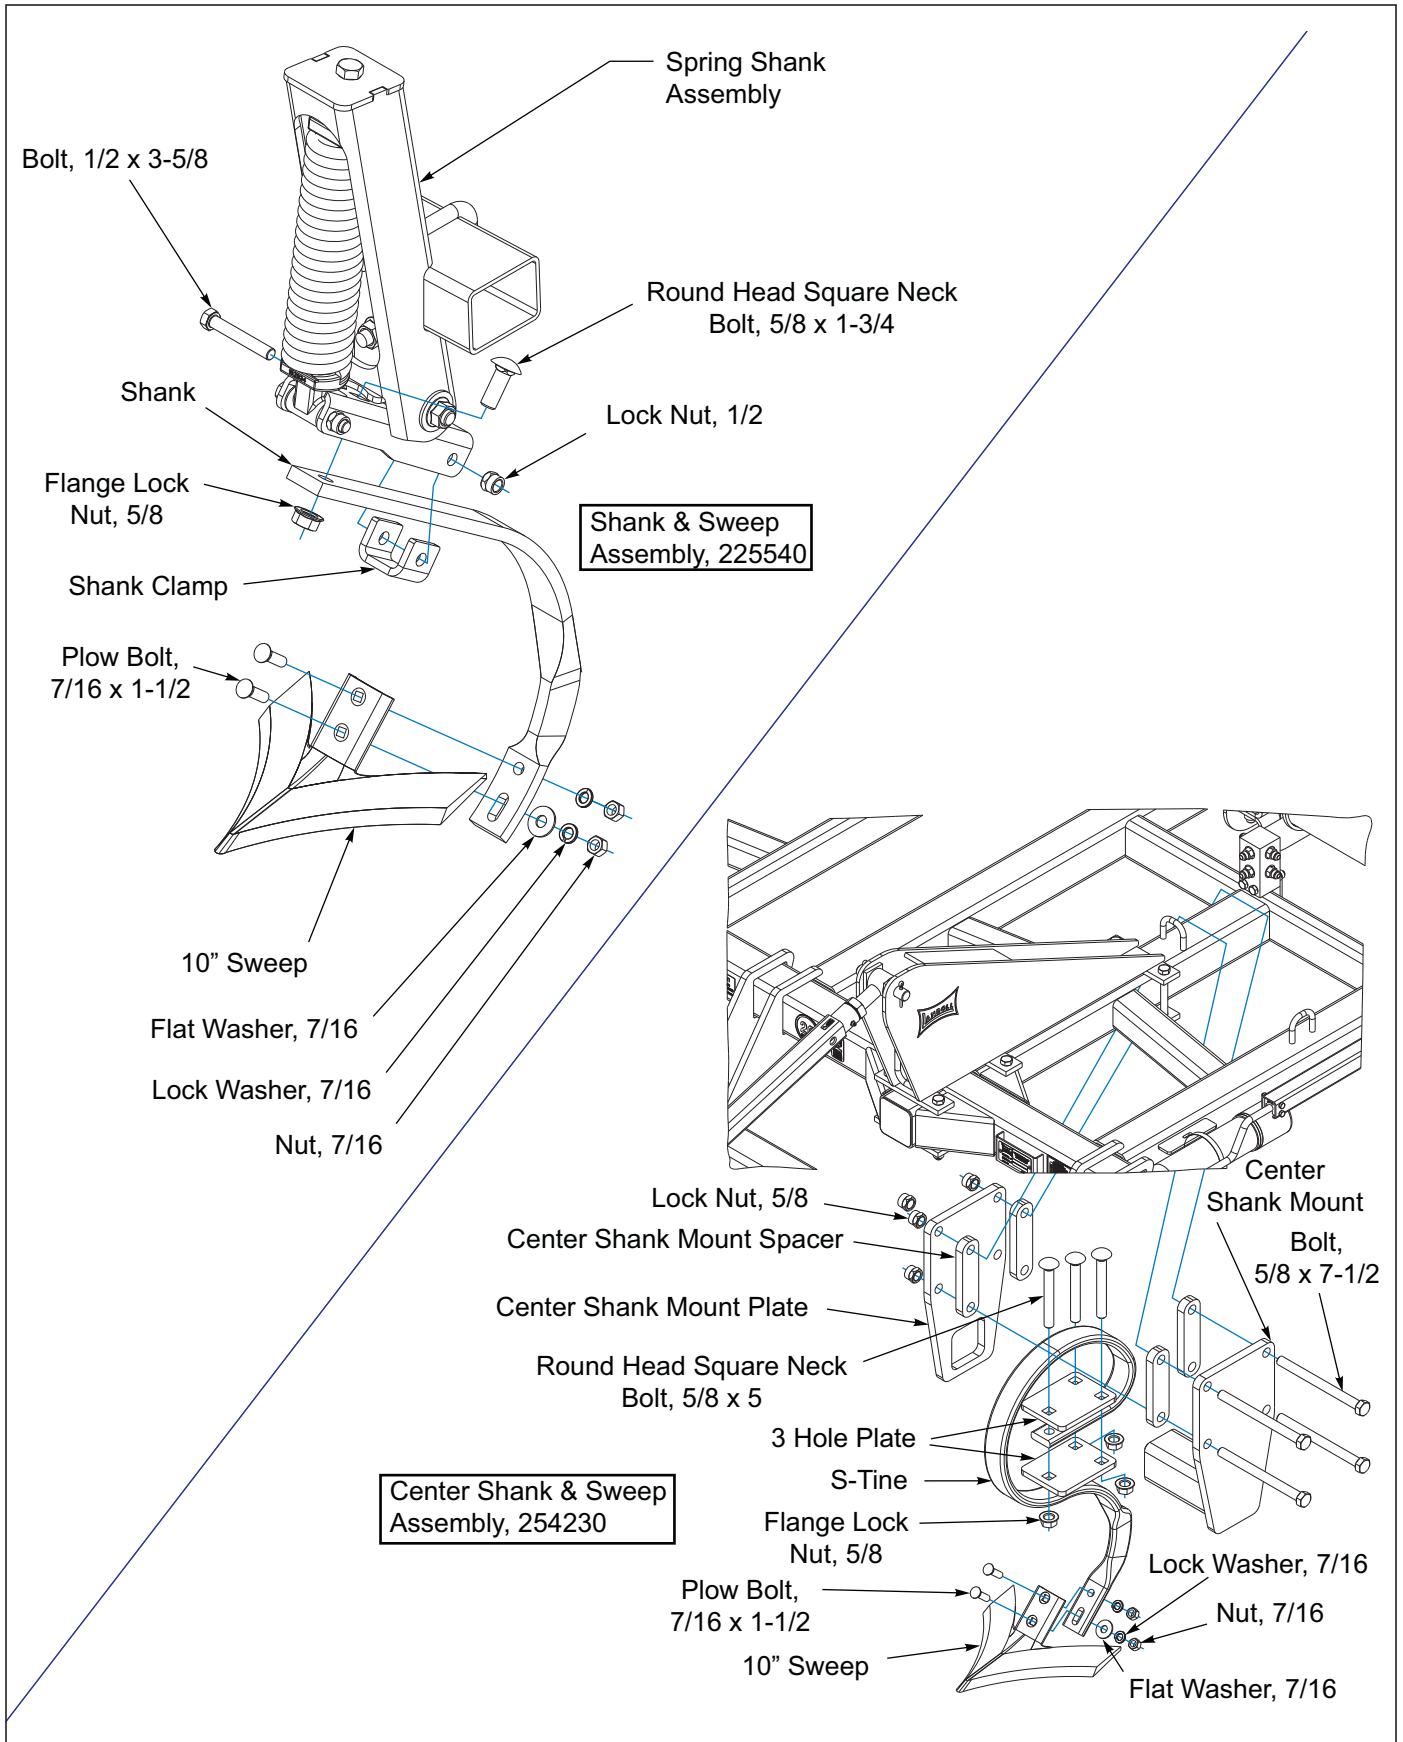

Figure 3-4: Shank & Seep Assembly
1. Attach shank to spring shank assembly with shank clamp, 5/8 x 1-3/4 round head square neck bolts, 5/8 flange lock nut, 1/2 x 3-5/8 lock nut *See Figure 3-4*.
1. Attach center shank to center shank mount to center frame *See Figure 3-4*, center shank mount spacers, center shank mount plate, 3 hole plates, s-tine, with 5/8 x 5 round head square neck bolts, 5/8 flange lock nut, 5/8 x 7-1/2 bolts and 5/8 lock nuts.